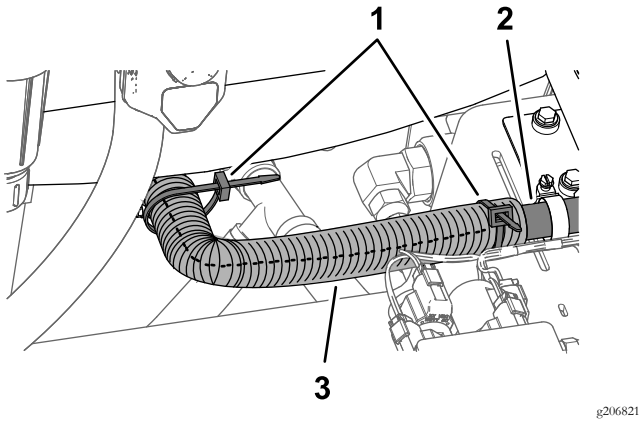

Figure 31
6. Assemble the split convoluted tubing over the hose 43.3 cm (17 inches) between the rinse tank and the rinse-tank pump and secure the tubing with 2 tie wraps (Figure 31).